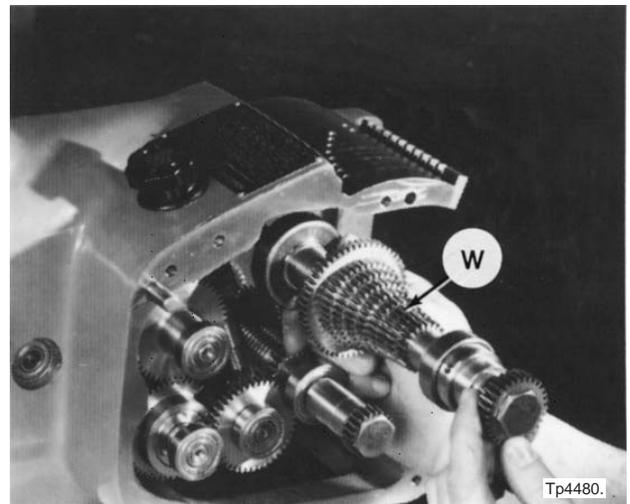

Figure 4.24 - Cluster Shaft Assembly Removal
15. Remove cluster shaft assembly "W", Figure 4.24 .